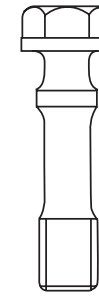

Fig3
3.4 Connecting foe bolts(fig 3)